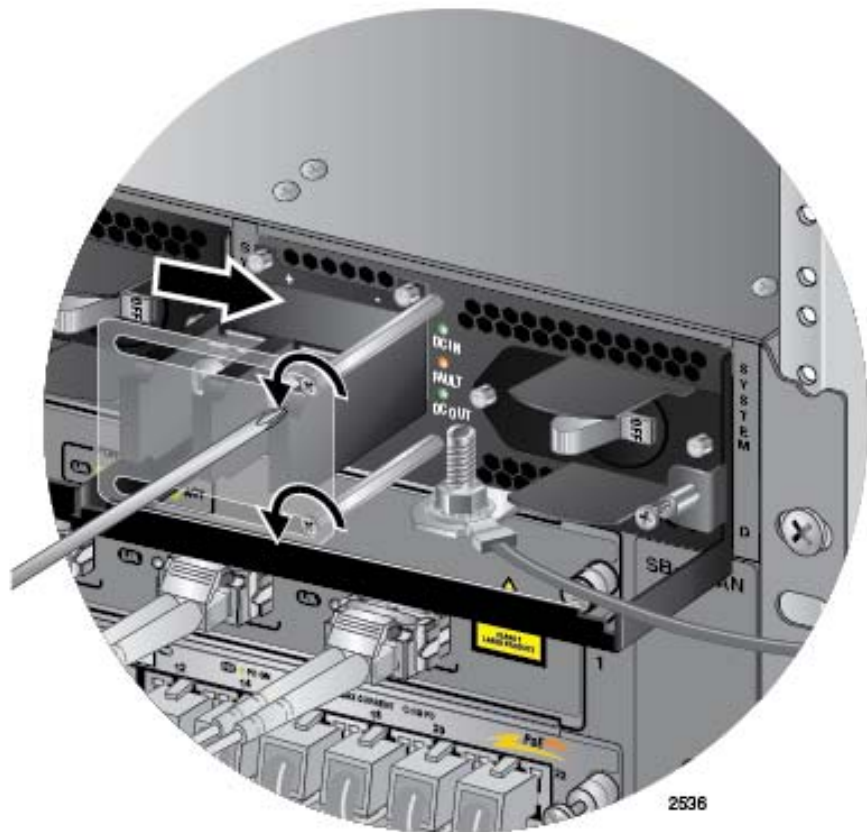

Figure 126. Opening the Plastic Cover
3. Use a #1 Phillips-head screwdriver to loosen the two screws on the plastic cover over the positive and negative terminals on the power supply and slide the cover to the right, as shown in Figure 126. You may need to lift the locking handle slightly to access the bottom screw.
2. Use a #1 Phillips-head screwdriver to loosen the two screws on the plastic cover over the positive and negative terminals on the power supply and slide the cover to the right, as shown in Figure 126 on page 169. You may need to lift the locking handle slightly to access the bottom screw.